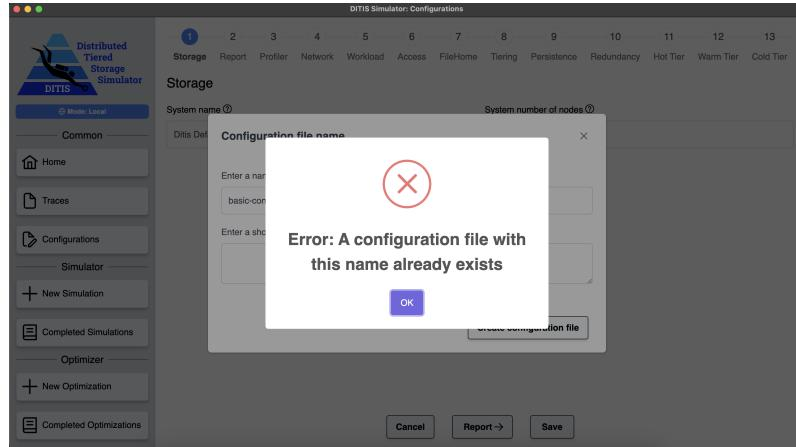

Figure 42: Error saving file
- If there is an error or a problem, you will be prompted an error message as seen in Figure 42.